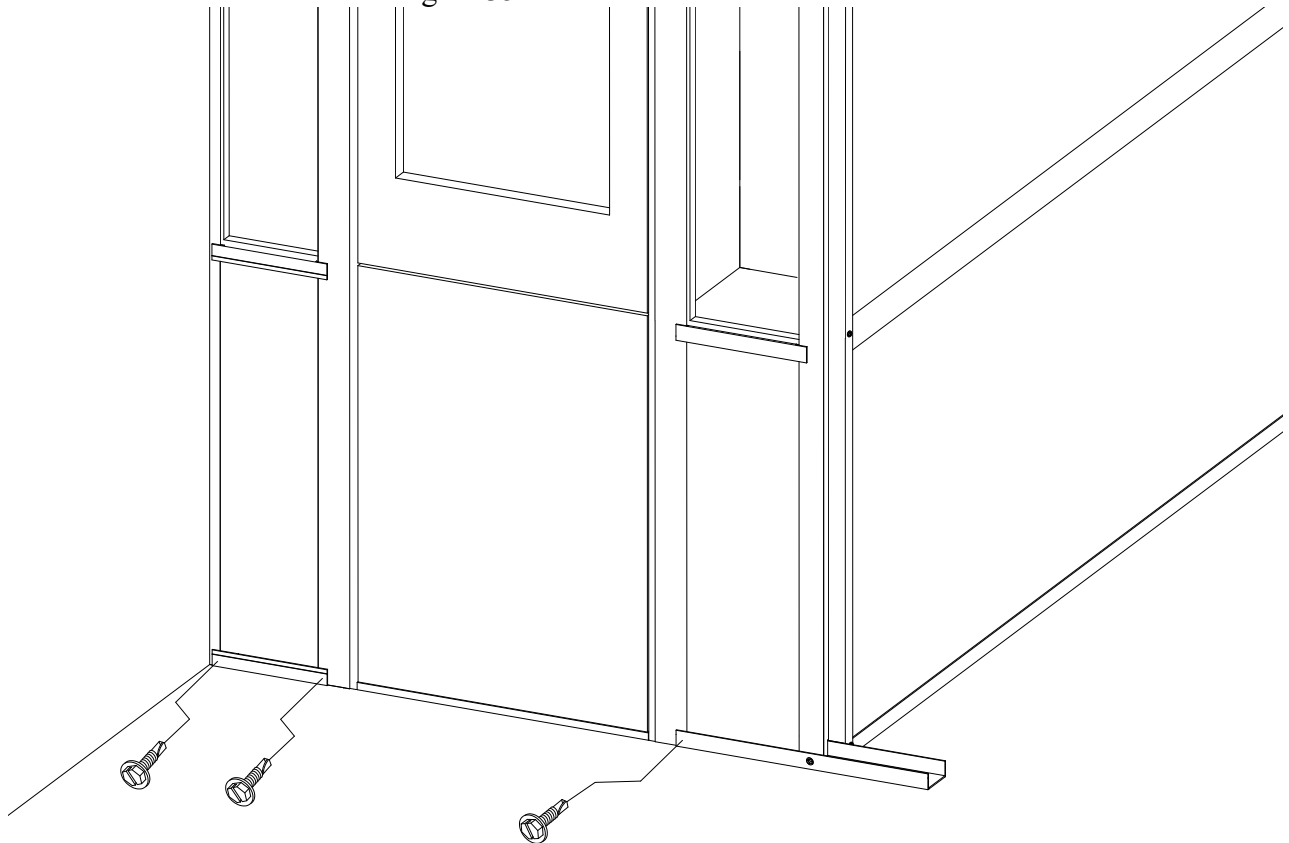

Figure 35
20. Measure to ensure that the horizontal “A” extrusions are in their correct positions. Begin fastening the bottom “A” channels to the vertical extrusions working from the bottom up. We suggest that you do this on the inside first then recheck that the “D” and “F” extrusions are still vertical. When you have ensured that the extrusions are vertical continue fastening the extrusions on the outside of the run. See figure 35.